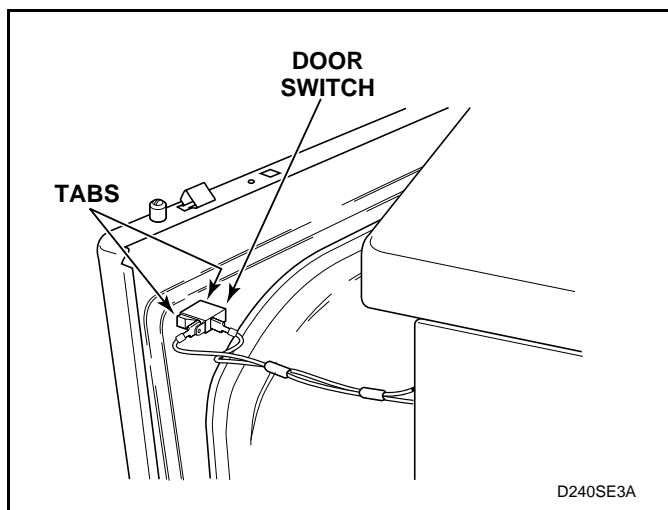

Figure 9
- j. Disconnect wires from door switch. See *Figure 9*.